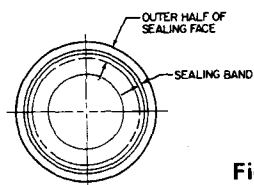

Figure 3
- (a) The sealing band must be within the outer half of the sealing face (see Figures 3 and 4). The sealing band is a narrow highly polished band on the sealing face.